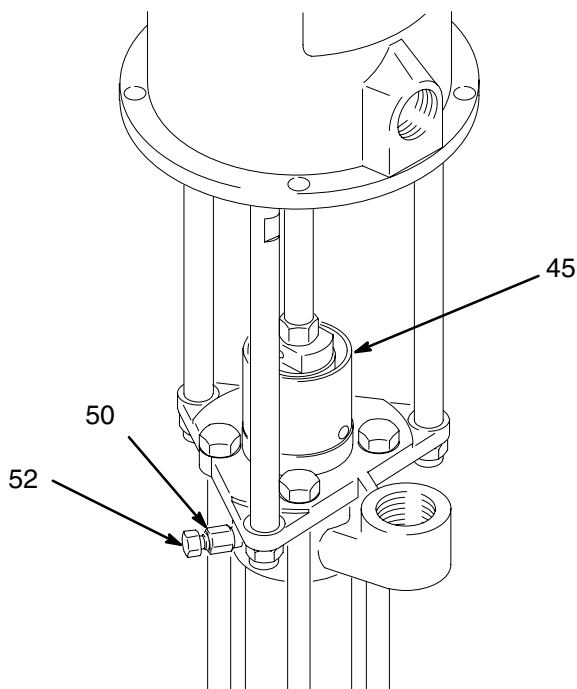

Fig. 3
Keep the packing nut/wet-cup (45) one-half full with Graco Throat Seal Liquid (TSL), to help prevent the fluid being pumped from drying on the displacement rod and damaging the packings. See Fig. 3. Do not use TSL with food or sanitary applications.